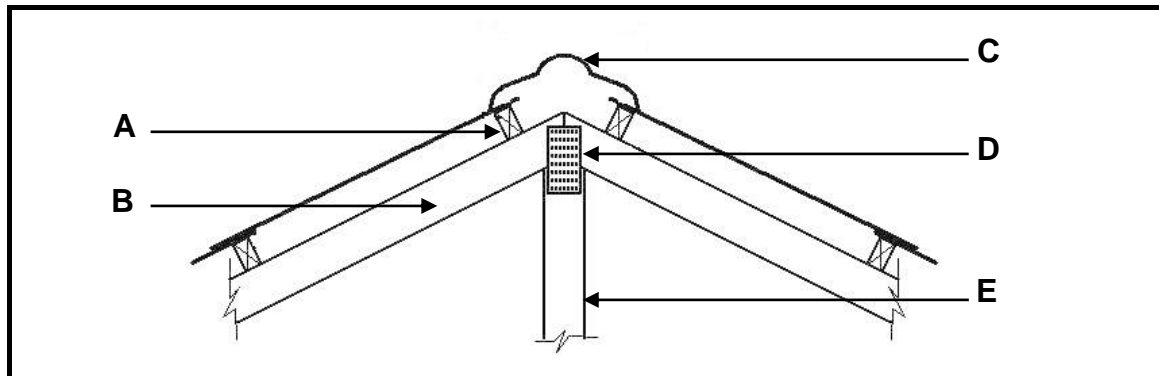

FIGURE 3.3
3.3 Answer the following questions on the roof truss construction in FIGURE 3.3.